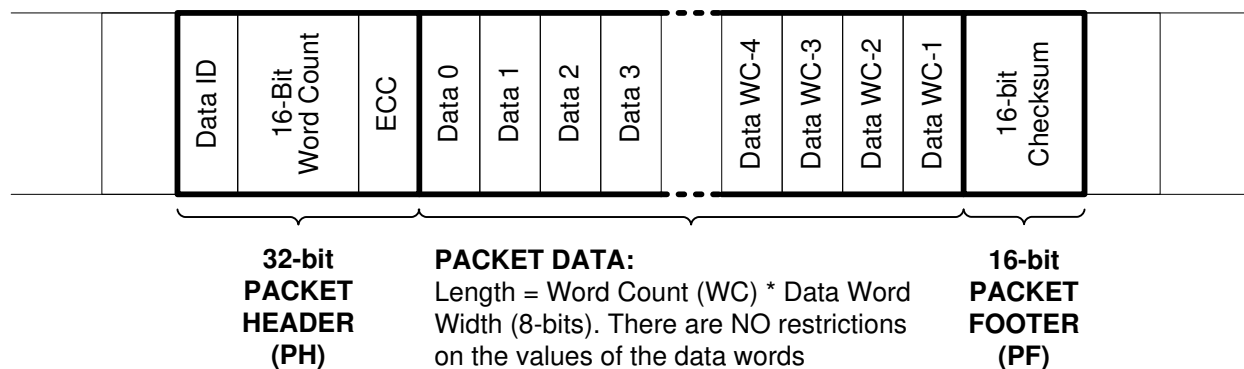

Figure 7-3. CSI-2 Long Packet Structure
A long packet consists of three elements: a 32-bit packet header (PH), an application-specific data payload with a variable number of 8-bit data words, and a 16-bit packet footer (PF). The packet header is further composed of three elements: an 8-bit data identifier, a 16-bit word count field, and an 8-bit ECC. The packet footer only has one element—a 16-bit checksum. Figure 7-3 shows the structure of a long packet.